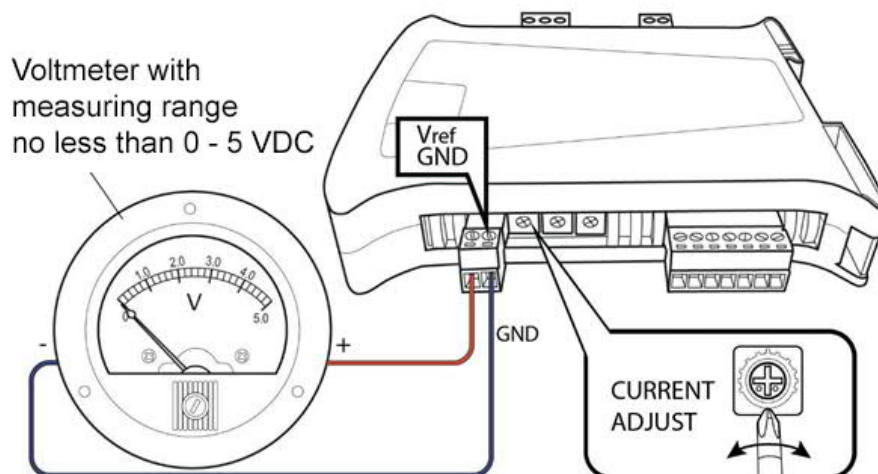

Fig. 3. Connection of a voltmeter for setting of a motor maximum current limit.
- 7) Using the potentiometer «CURRENT ADJUST», set the maximum motor current. Adjust the «CURRENT ADJUST» potentiometer and control the set current limit by a voltmeter, connected to «GND» and «Vref » terminals (fig.3). The motor current limitation can be calculated as: